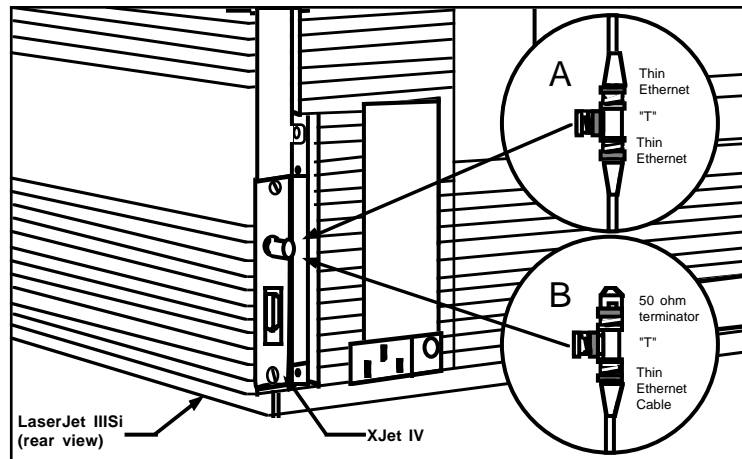

Figure 2-9
1. Connect one section of the thin Ethernet cable to one end of the "T" connector as shown in figure 2-9.